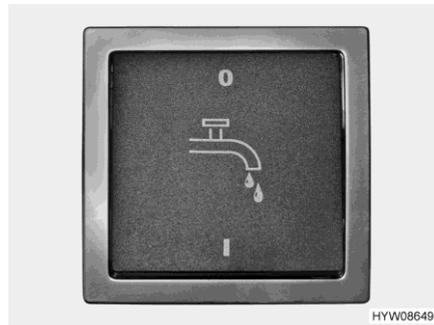

Fig. 125 Switch (water pump)
- ▷ Before the water fittings can be used, the 12 V power supply and the water pump must be switched on at the panel and on the switch (Fig. 125) respectively. Otherwise the water pump will not work.